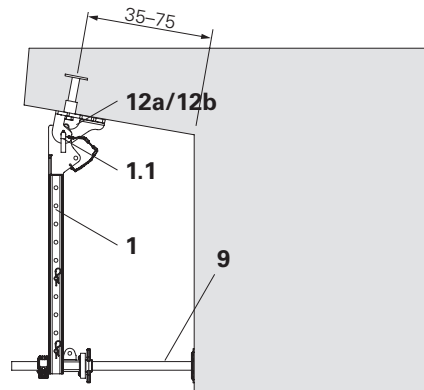

Fig. B1.08
1. Insert Adj. Base Plate UJB 38 mm-80/55 (9) into Bracket Unit VGK (1) and vertically align.
2. Secure the Adj. Base Plate UJB 38 mm-80/55 (9) against falling out and unintentional twisting, see Section “Intermediate area on cantilevers 35 – 75 cm” on page 14. (Fig. B1.08)